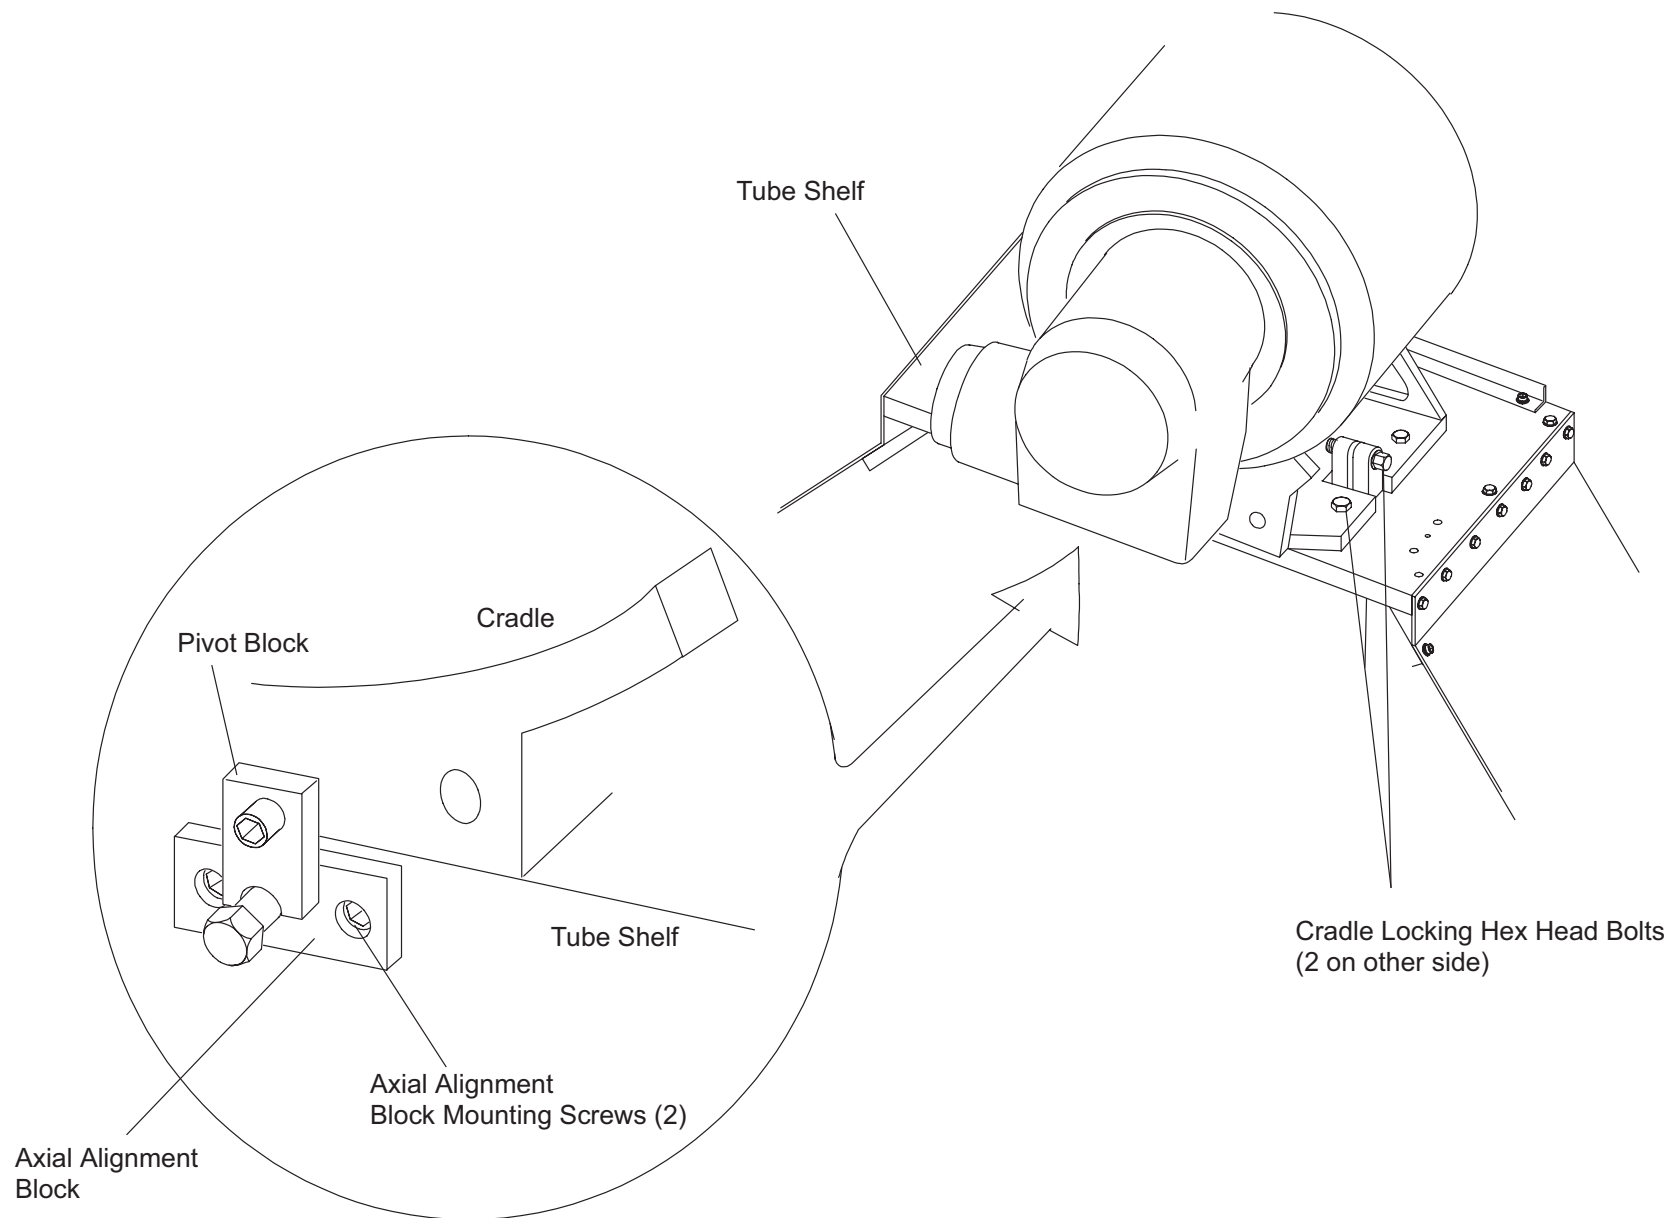

FIGURE 250 XRAY TUBE MOUNTING
5. Loosen and remove the four Cradle Locking Hex Head Bolts. See Figure 250.
9. Loosen one of the two Axial Alignment Block Mounting Screws and remove the other. Let the Block swing down to allow removal of the X-Ray Tube Cradle. Refer to Figure 250.